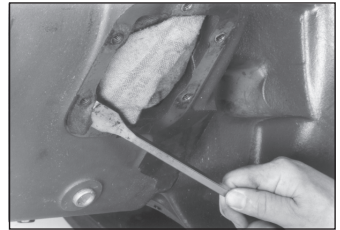

Fig. 2
2. Discard the cover plate and cover plate gasket then clean the aperture pad using a putty knife or wire brush (Fig. 2).